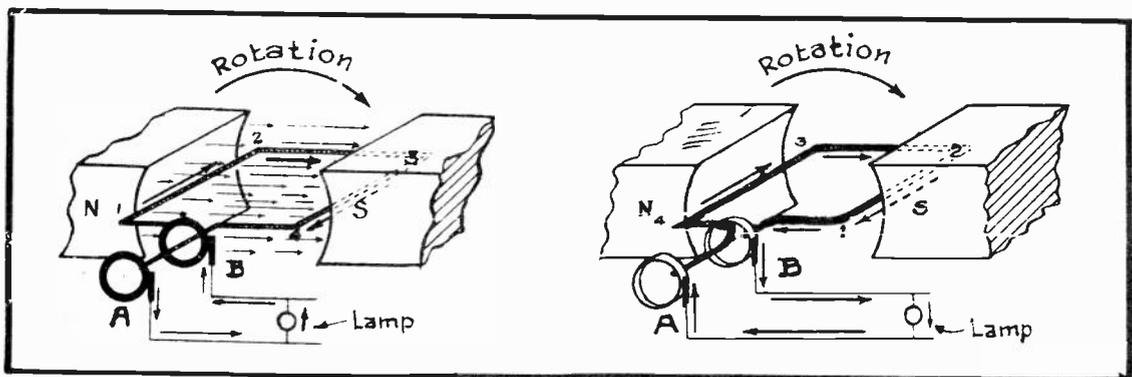

FIG. 5
IN OTHER WORDS, IT IS APPARENT THAT BY MOVING A CONDUCTOR, WHICH HAS A COMPLETE CIRCUIT, RAPIDLY UP AND DOWN WITHIN A MAGNETIC FIELD, AN ALTERNATING CURRENT WILL BE GENERATED. THIS IS YOUR FUNDAMENTAL OR BASIC GENERATOR PRINCIPLE AND IT IS APPLIED IN PRACTICE AS ILLUSTRATED IN FIG. 5.
IN FIG. 5, YOU WILL NOTE THAT OUR INDUCTOR TAKES THE SHAPE OF A LOOP, INSTEAD OF A STRAIGHT WIRE AND A BRASS OR COPPER RING IS FASTENED TO EACH END OF THE LOOP AT "A" AND "B" AND WE CALL THESE RINGS COLLECTOR RINGS OR SLIP RINGS. A STATIONARY CARBON BRUSH MAKES A WIPING CONTACT WITH EACH OF THE COLLECTOR RINGS, SO THAT EVEN THOUGH THE COLLECTOR RINGS SHOULD REVOLVE, THE BRUSHES WILL EACH MAINTAIN A SLIDING CONTACT WITH ITS INDIVIDUAL COLLECTOR RING. THESE TWO BRUSHES ARE THEN CONNECTED ACROSS AN EXTERNAL CIRCUIT OR LOAD, WHICH IN THE CASE OF FIG. 5 HAPPENS TO BE A LAMP.
NOW THEN, WITH THE WIRE LOOP IN THE POSITION SHOWN AT THE LEFT OF FIG. 5, YOU WILL OBSERVE THAT THE SIDE OF THE LOOP MARKED 1 AND 2 IS NEXT TO THE NORTH POLE PIECE (N) AND SIDE 3 AND 4 OF THE LOOP IS UNDER THE INFLUENCE OF THE SOUTH POLE PIECE (S). WITH THIS CONDITION FIRMLY FIXED IN YOUR MIND, LET US NEXT SEE WHAT HAPPENS AS THE LOOP IS ROTATED IN A CLOCKWISE DIRECTION OR AS INDICATED BY THE ARROW OF ROTATION.
AFTER THE WIRE LOOP HAS BEEN ROTATED ONE-HALF REVOLUTION OR  $180^\circ$ , IT WILL COME TO THE POSITION AS PICTURED AT THE RIGHT OF FIG. 5. AT THIS TIME, YOU WILL NOTE THAT SIDE 1 AND 2 IS NOW CUTTING LINES OF FORCE IN A DOWNWARD DIRECTION, WHILE SIDE 3 AND 4 IS CUTTING THEM IN AN UPWARD DIR-
BY CAREFULLY COMPARING THE RIGHT AND LEFT ILLUSTRATIONS OF FIG. 5, YOU WILL NOTICE THAT AT THE RIGHT, THE GENERATED CURRENT IS FLOWING OVER THE EXTERNAL CIRCUIT FROM "B" TOWARDS "A" -- EXACTLY OPPOSITE TO ITS DI- RECTION OF FLOW AS FOUND IN THE UNIT AT THE LEFT OF FIG. 5. IN OTHERWORDS, ALTERNATING CURRENT IS BEING GENERATED BY THIS SIMPLE DEVICE AND THE FLOW OF CURRENT WILL REVERSE ITSELF AS EACH HALF-REVOLUTION OR 180° OF THE LOOP'S TRAVEL IS COMPLETED.